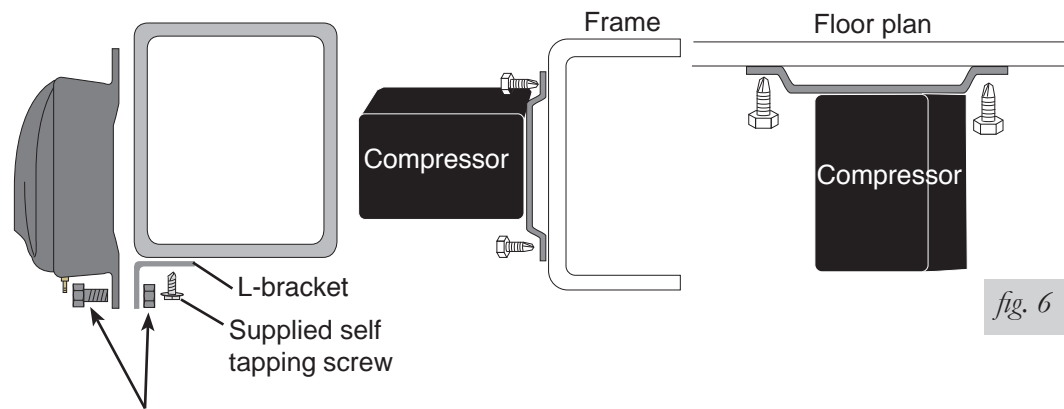

fig. 6
- c. For box frames: In some cases the frame section will not be wide enough to mount the compressor legs flat to the rail. Refer to fig. 6 in this situation.